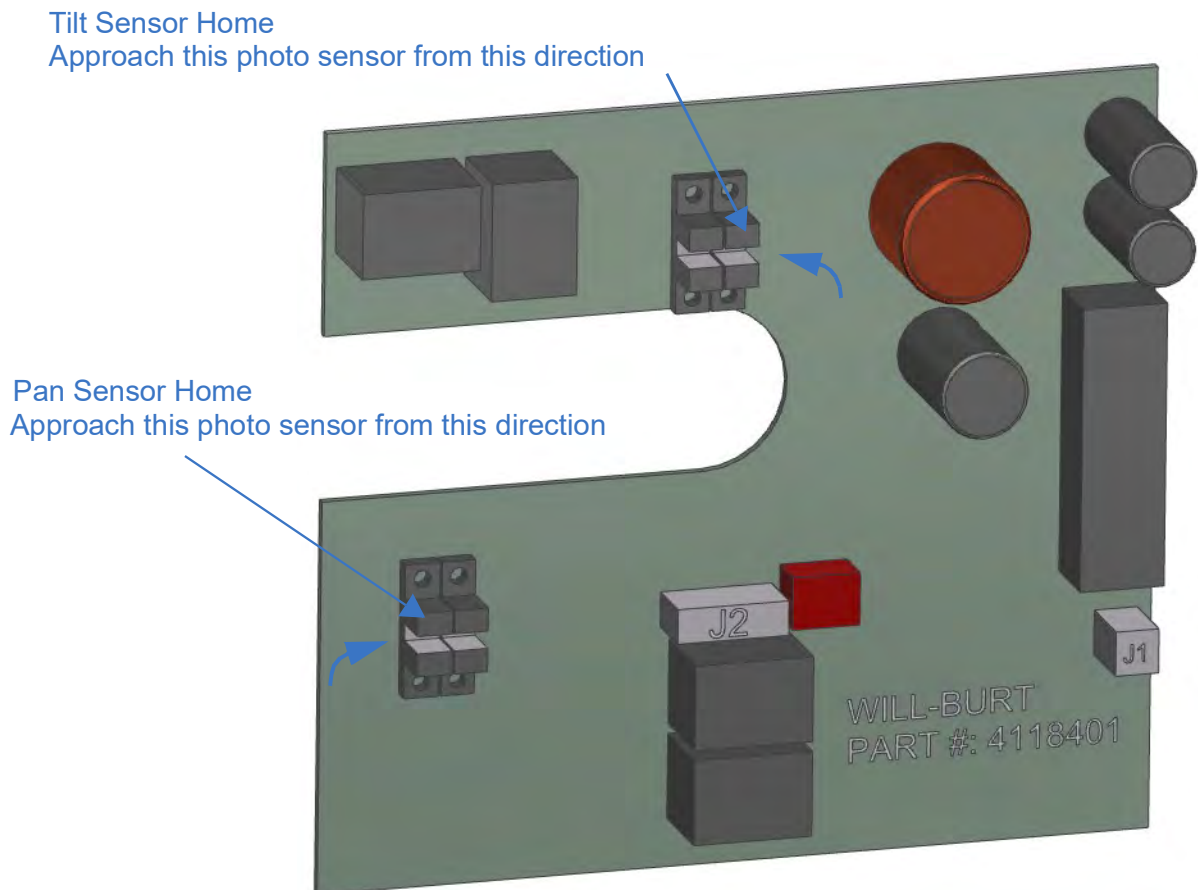

Figure 7-5 RCP PCB Photo Sensors
5. The pan and tilt functions have two photo sensors for each function. It is important that the flags engage the correct photo sensor from the proper direction when setting the home position. To set the Tilt Home Position, turn the timing ring on the tilt shaft such that it rotates counterclockwise towards the photo sensor (see Figure 7-5). As you approach the sensor, watch the controller. As soon as the "Tilt Down" LED goes out, stop rotating the ring and tighten the set screw. This should be roughly 80% penetration into the sensor with the flag.
6. To set the Pan Home Position, turn the flag counterclockwise (looking from above the RCP) until the "Pan Right" LED goes out (see Figure 7-5). Tighten the adjustment screws to secure the ring.